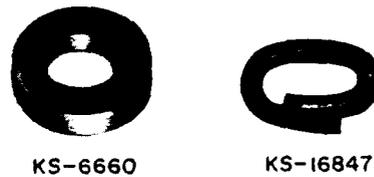

Figure 63—KS-6660 and KS-16847 Indicators
7.04 The KS-6660 (Figure 63) indicator is a red plastic ring 1/2-inch in diameter. This indicator must be placed on cross-connecting wires before they are terminated.
7.05 The KS-16847, L1 indicator (Figure 63) is a red cellulose-acetate spiral ring 3/8-inch in diameter. The split-ring feature permits placing or removing the indicator on terminated cross-connecting wires.